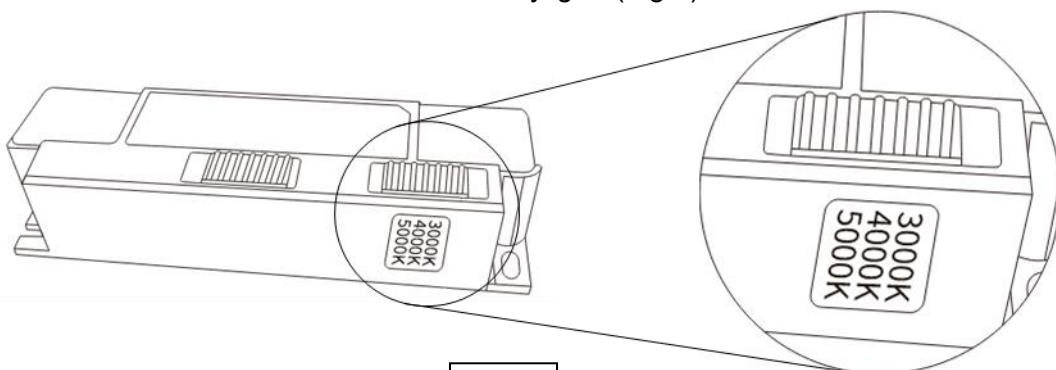

Fig. 6
9. Beneath the terminal cover is the LED Driver for the THERMALITE PRO's LED Lighting Fixture (B). Use the toggle switch on the driver to select the desired colour temperature of the Lighting Fixture (B) – 3000K Warm White, 4000K Cool White or 5000K Daylight. (Fig.6)